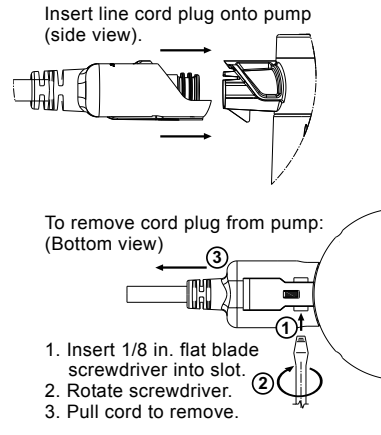

Fig. 4 Connecting and removing power plug for line cord models
- Only connect the pump to the mains with the line cord or through the terminal box supplied; see fig. 4 and 5.
Follow procedure outlined in fig. 4.